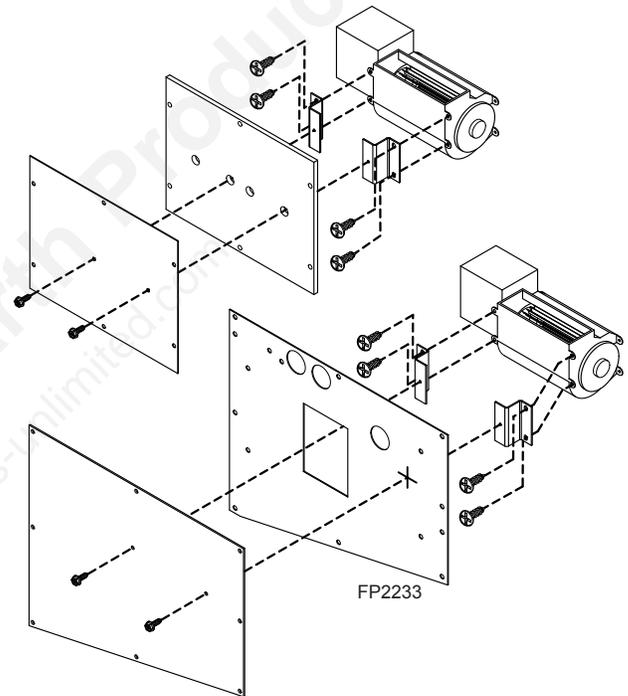

Figure 33 -
8. Two screws are already mounted to each cover which would be utilized to mount the blower to the cover. Unfasten the two screws and mount the blower bracket assemblies. *Figure 33*